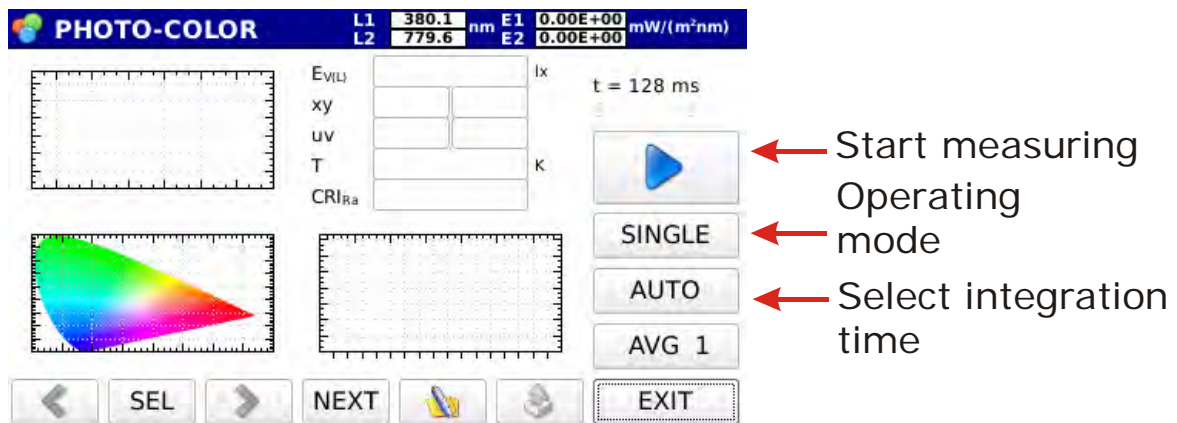

Figure 3.10: Photo_color measuring mode startup screen
illuminance (Lux), trichromatic coordinates CIE 1931 (x, y) and CIE 1976 (u',v'), the Correlated Color Temperature CCT (K) and the Color Rendering Index CRI (the general index and the index of each of the 14 reference samples). By pressing the Photo-color button you access the screen in figure 3.10